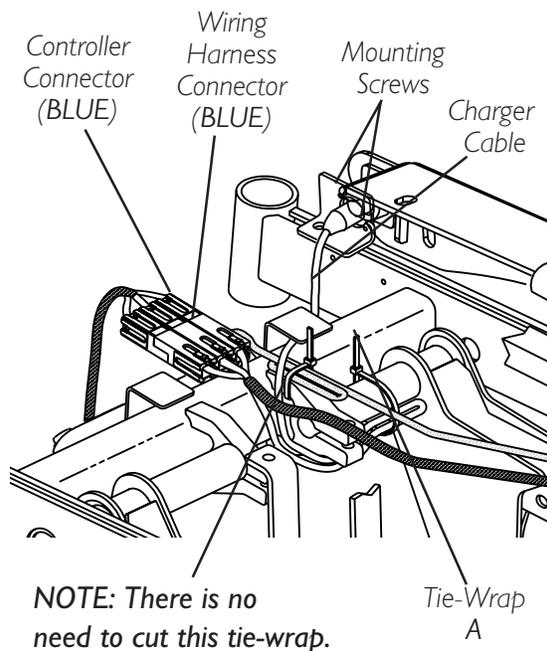

FIGURE 1 - REMOVING/INSTALLING THE WIRING HARNESS - GROUP 24 BATTERIES
GROUP 24 BATTERIES (FIGURE 1)
2. Remove the two mounting screws and locknuts that secure the wiring harness bracket to the base frame (DETAIL "A" of FIGURE 1).
3. Perform one (1) of the following sections:
- A. Cut **TIE-WRAPS A** and **B** that secure the two (2) motor/controller connections and the controller/wiring harness connection (BLUE connectors) together (DETAIL "B" of FIGURE 1).
- B. Cut **TIE-WRAP C** that secures the battery charger cable, motor connector cable, controller connector cable, and wiring harness cable to the base frame (DETAIL "B" of FIGURE 1).
- A. Cut **TIE-WRAP A** that secures the battery charger cable to the base frame (DETAIL "C" of FIGURE 1).
NOTE: For STEPS 4-6 refer to DETAIL "B" or "C" of FIGURE 1.
1. Install NEW wiring harness w/bracket to the rear of the sub-frame and torque mounting screws to 160 in-lbs (DETAIL "A" of FIGURE 1).
2. Secure the charger cable to the mounting bracket with the two (2) mounting screws. Securely tighten (DETAIL "B" OR "C" of FIGURE 1).
3. Connect the battery harness/charger cable (BLUE) to the controller connector (BLUE) (DETAIL "B" or "C" of FIGURE 1).
4. Perform one (1) of the following sections:
- A. Group the two (2) motor/controller connections together along with the controller/wiring harness connection (BLUE) and secure with **TIE-WRAPS A** and **B** (DETAIL "B" of FIGURE 1).
- B. Secure the Wiring Harness Cable, Battery Charger Cable, Controller Connector Cable, and Motor Connector Cable to the suspension arm with **TIE-WRAP C** (DETAIL "B" of FIGURE 1).
REPLACING BATTERY BOX RETAINER BAR/RETAINER CLIP (FIGURE 1)
3. Position the **NEW** retainer clip between the shock (or rubber element) and the battery box sub-frame as shown in FIGURE 1. Make sure the angled end of the retainer clip is facing up.
REMOVING/INSTALLING DRIVE WHEELS (FIGURE 1)**CAUTION**